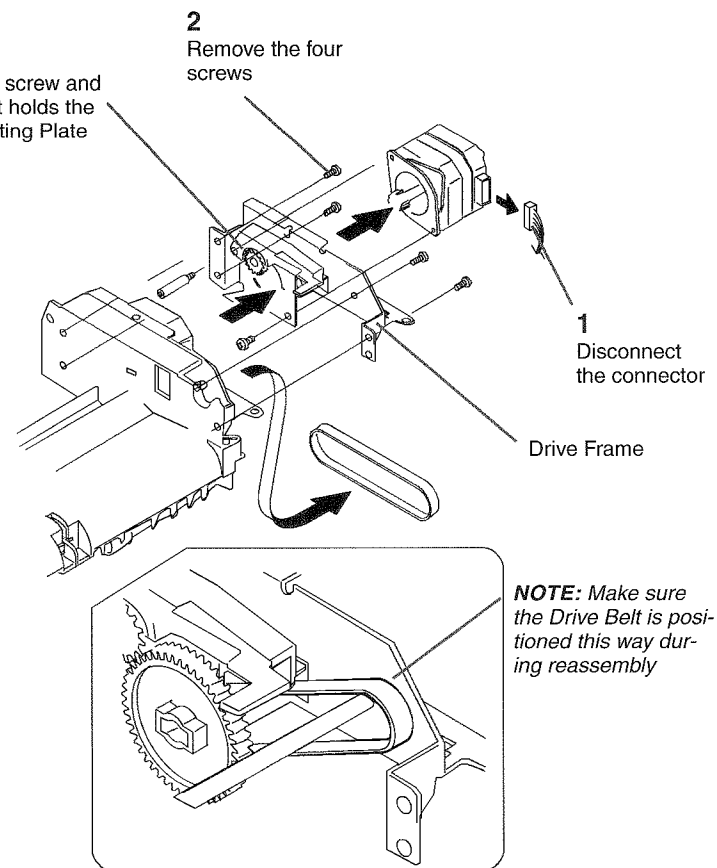

Figure 6 Removing the SDF Drive Motor
7. (Figure 6): Remove the SDF Drive Motor.